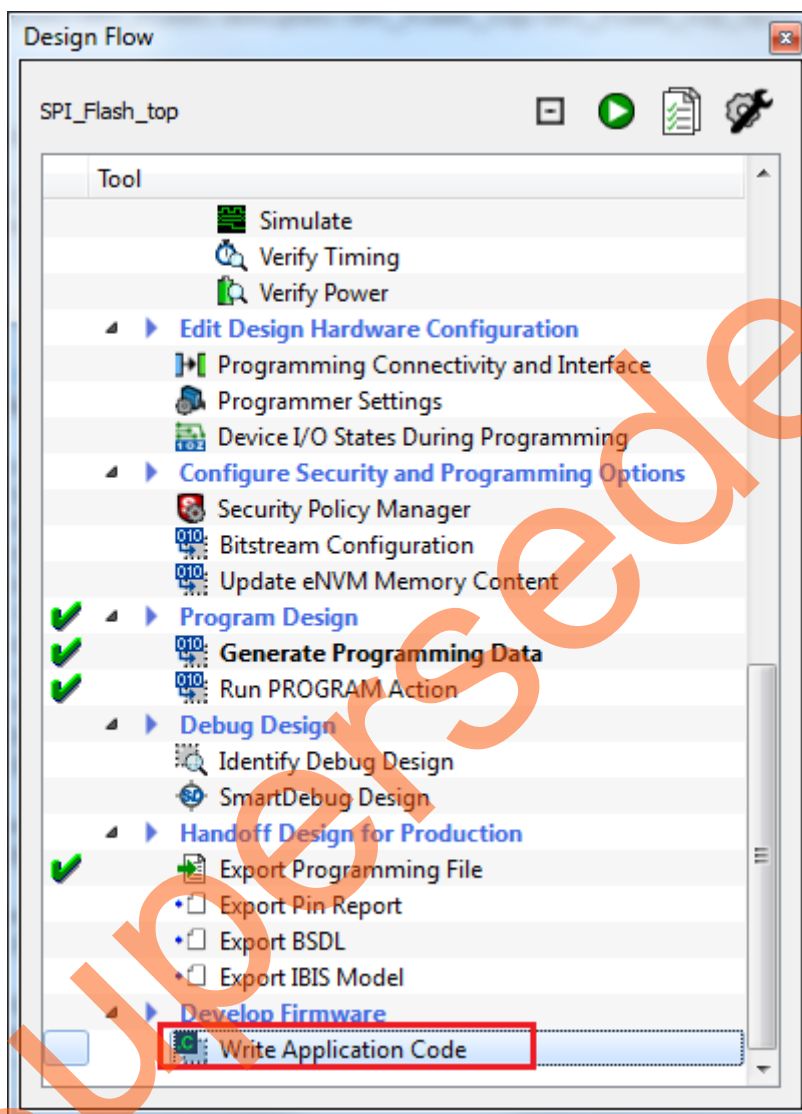

Figure 20 • Invoking SoftConsole from the Libero SoC Software
1. After successful programming, open the SoftConsole project by double-clicking **Write Application Code** under **Develop Firmware** in the **Design Flow** window as shown in Figure 20.